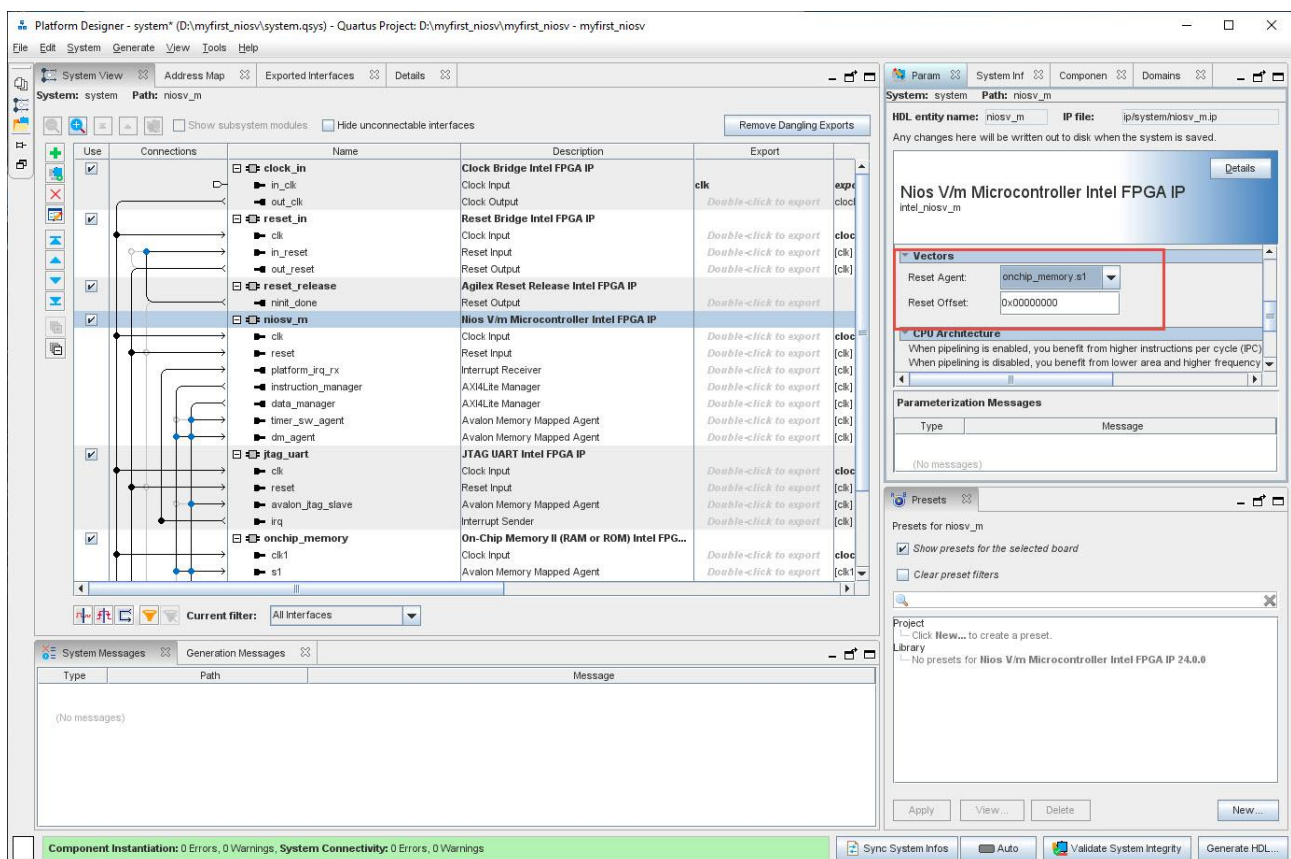

Figure 2-26 Update CPU settings
- Click **niosv_m** in the component list on the right part to edit the component. Update **Reset Agent** and **Vector Offset** as shown in Figure 2-26.